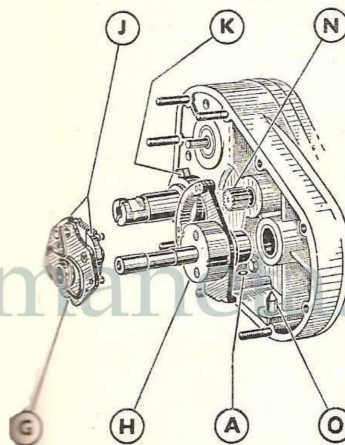

Fig. 25.
1. Drain oil by removing drain plug *A*, (Fig. 25).